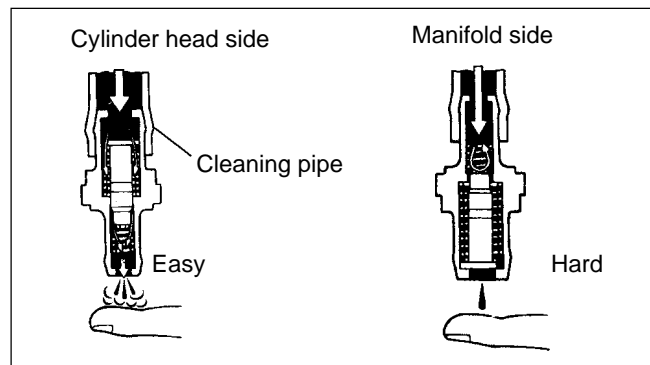

Figure 3-17
- Blow air into from the suction side, and the air should be hard to flow through. If the operation is unsatisfactory, replace PCV (see Figure 3-17).